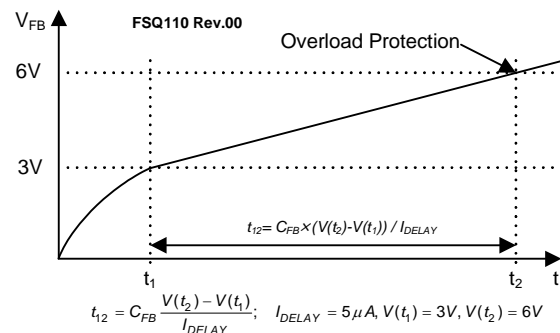

Figure 15. Overload Protection (OLP)
4.1 Overload Protection (OLP): Overload is defined as the load current exceeding a pre-set level due to an unexpected event. In this situation, the protection circuit should be activated to protect the SMPS. However, even when the SMPS is operating normally, the OLP circuit can be activated during the load transition. To avoid this undesired operation, the OLP circuit is designed to be activated after a specified time to determine whether it is a transient situation or a true overload situation. In conjunction with the I_{PK} current limit pin (if used), the current mode feedback path limits the current in the SenseFET when the maximum PWM duty cycle is attained. If the output consumes more than this maximum power, the output voltage (V_O) decreases below nominal voltage. This reduces the current through the opto-coupler LED, which also reduces the opto-coupler transistor current, increasing the feedback voltage (V_{FB}). If V_{FB} exceeds 3V, the feedback input diode is blocked and the 5μA current source (I_{DELAY}) starts to slowly charge C_{FB} up to V_{CC} . In this condition, V_{FB} increases until it reaches 6V, when the switching operation is terminated, as shown in Figure 15. The shutdown delay time is the time required to charge C_{FB} from 3V to 6V with 5μA current source.